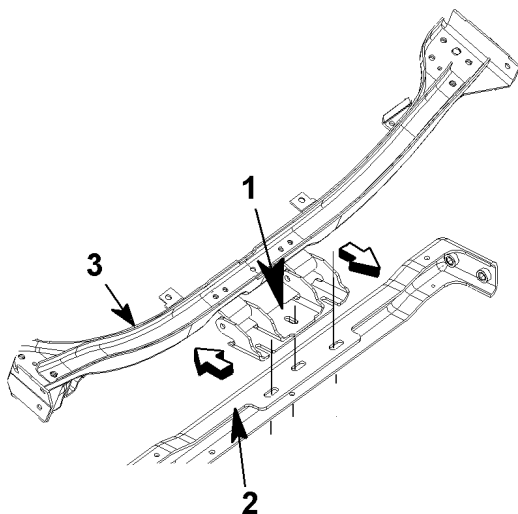

Figure 108 Hood Hinge Adjustment
2. To adjust hood forward and back (reference Figure 108), loosen the hinge mounting bolts at the mounting plate (Figure 91, Item 2) on the front cross member.